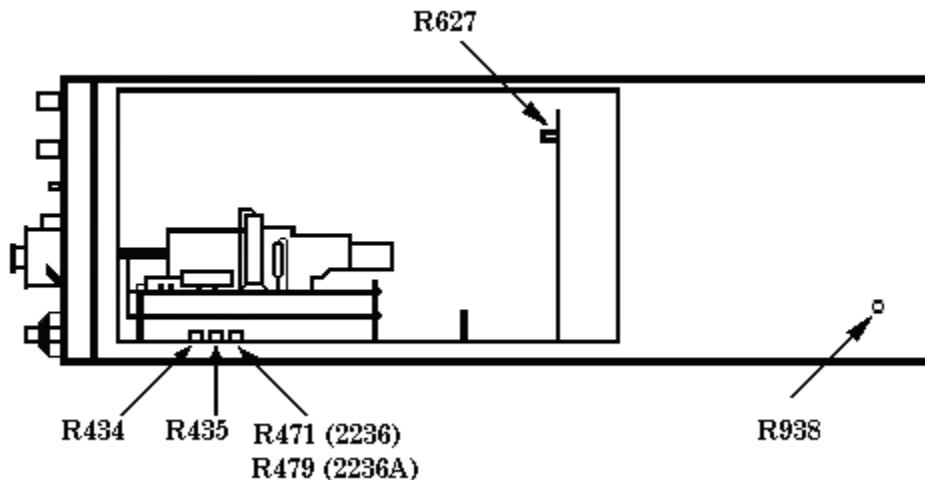

Figure 2. Adjustments – right side view.
(11) Connect oscilloscope calibrator **SOURCE/MEASURE CHAN 1** to TI **CH 1** using 50 Ω feed through termination.
(12) Set oscilloscope calibrator for a **SOURCE/MEASURE CHAN 1, LEVEL SINE** output of **50 kHz** and 2.2 divisions of vertical display on TI.
(13) Set TI **CH 1 VOLTS/DIV** switch to 1.
(14) Adjust R471 (2236) (fig. 2) or R479 (2236A) (fig. 2) while rotating **A TRIGGER LEVEL** control slowly so that **A TRIGGER** is just able to be maintained (R).
(15) Set TI **CH 1 VOLTS/DIV** switch to **50m** and adjust **A TRIGGER LEVEL** control fully cw.
- (16) Set oscilloscope calibrator **LEVEL SINE** output amplitude for 5 divisions of vertical display on TI.
- (17) Set **TI CH 1 VOLTS/DIV** switch to **.5**.
- (18) Adjust R434 (fig. 2) so display just solidly triggers on positive peak of signal (R).
- (19) Press **TI A TRIGGER SLOPE** pushbutton to **IN:**  and adjust **A TRIGGER LEVEL** control fully ccw.
- (20) Adjust R435 (fig. 2) so display just solidly triggers on negative peak of signal (R).
- (21) Connect oscilloscope calibrator **SOURCE/MEASURE CHAN 1** to one side of a BNC tee. Connect BNC tee to **TI CH 1** using a X10 attenuator and 50 Ω feedthrough termination. Connect remaining side of BNC tee to **TI EXT INPUT**.
- (22) Set **TI CH 1 VOLTS/DIV** switch to **10m** and **A TRIGGER A SOURCE** switch to **EXT**.
- (23) Set oscilloscope calibrator for a **LEVEL SINE** output of **50 kHz** and 2.2 divisions of vertical display on TI.
- (24) Adjust **TI A TRIGGER LEVEL** control for a stable display.
- (25) Set **TI HORIZONTAL MODE A ALT B** switch to **B** and adjust **B TRIGGER LEVEL** control for a stable display.
- (26) Set **TI CH 1 VOLTS/DIV** switch to **.1**.
- (27) Adjust R627 (fig. 2) so that a display can be maintained by adjusting **B TRIGGER LEVEL** control (R).